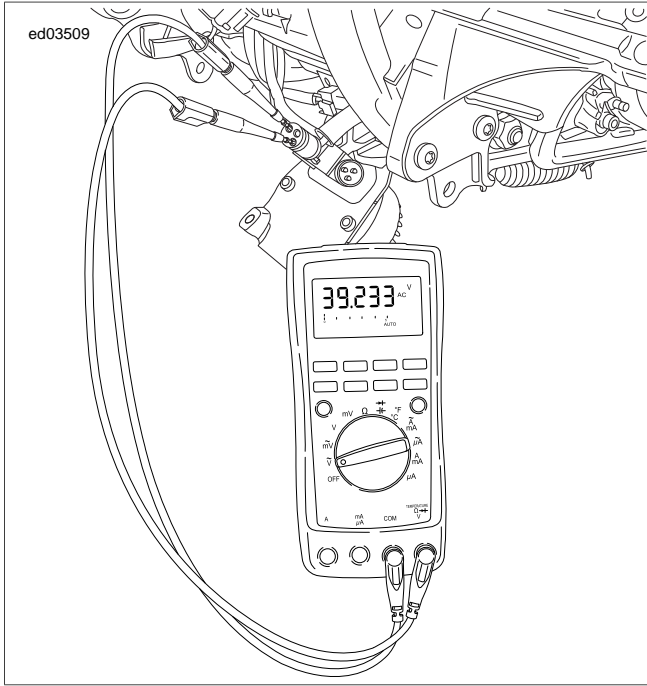

Figure 3-15. Check Stator AC Voltage Output (Typical)
1. See Figure 3-15. Using HARNESS CONNECTOR TEST KIT (Part No. HD-41404), test AC output.